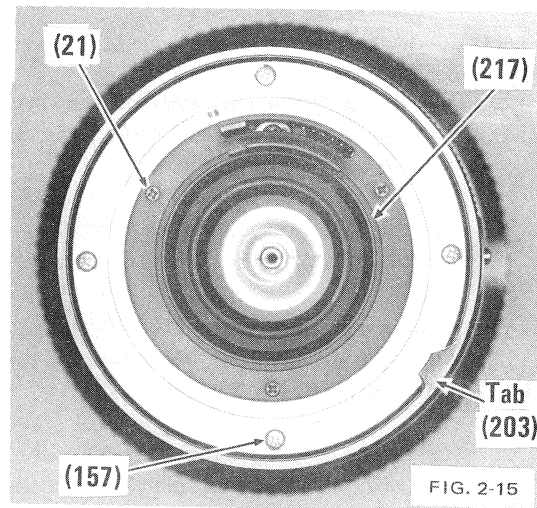

FIG. 2-15
a) Remove three screws (21) and shade pipe (217). Fig. 2-15.
b) Remove four screws (157); lift off mount in an upward angled movement, so that mount clears tab on aperture ring (203). Fig. 2-15.